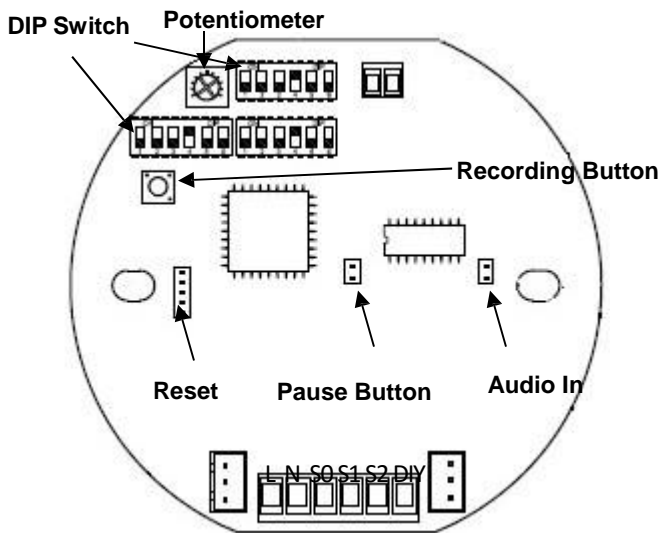

Fig 3
Use the three (3) DIP switches with 6 binary codes on the **Sounder PCB** to select tones (See Fig 3).
The sounder has a volume control to adjust the output volume of the sounder component. To set the required output volume, adjust the potentiometer-VR1 on the PCB (See Fig 3). The potentiometer should be set to fully clockwise position if maximum output volume is needed.
The sounder can provide 4 tones can be recorded by the user. Use the Audio In and Recording Button (See Fig 3) to record.
The sound can pause by pressing the Recording Button. (See Fig 3)